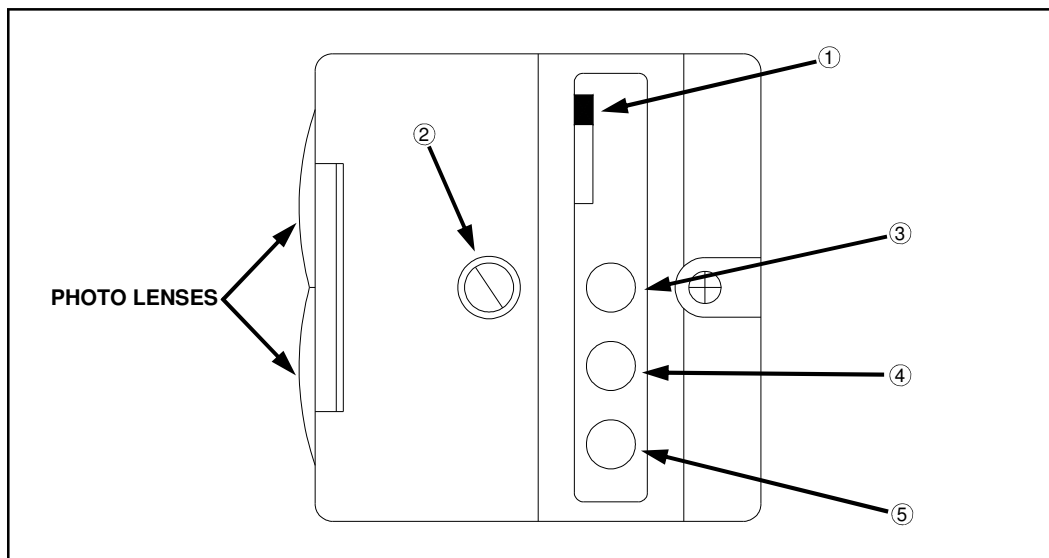

FIG 5.57
The upper and lower LS photolights (fig. 5.55) have L.E.D. lights (fig. 5.57) that indicate their operational status.
LT/DK SWITCH – Light/Dark switch on photolight (fig. 5.57, item 1) changes the activated condition of green L.E.D. (see below) from *ON* (“LT”) to *OFF* (“DK”). Switch does not affect the functional operation of the light, only how it is displayed. Switch should be set to “LT”.
SENSITIVITY ADJUSTMENT SCREW – Sensitivity adjustment screw (fig. 5.57, item 2) should always be set to maximum.
YELLOW L.E.D. – Yellow L.E.D. (fig. 5.57, item 3) indicates power on.
GREEN L.E.D. – Green L.E.D. (fig. 5.57, item 4) indicates output energized (sending a signal to Tassel-trol[®] box, opening the raise or lower stack valve).
RED L.E.D. – Red L.E.D. (fig. 5.57, item 5) indicates photolight is receiving reflected signal.